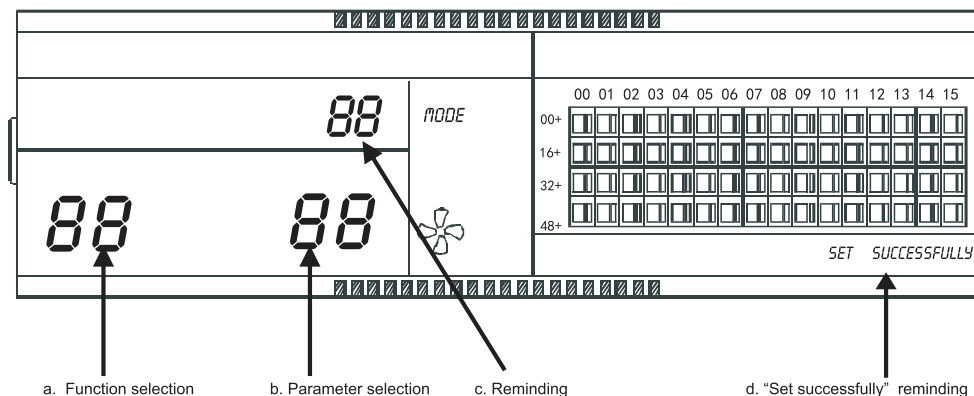

Fig 2.9 Filter net in addition to the dust function involves of show a contents
① Dial the dial code 3 to "ON", select the "Has optional function" referring to table 2.1 to , and then power on the centralized controller, in 1 minute press " " key and hold on then press " " key, enter to optional function setting. Dual eight represented function selection (Fig.2.9 a) will be flashed with 1Hz frequency (default display 00), display the optional function code (see table 2.2). Press " " and " " keys to select function, and then press " " key to enter parameter selection.
②After enter parameter selection, dual eight represented function selection will be lighted on, dual eight represented parameter selection (Fig.2.9 b) will be flashed with 1Hz frequency, display optional parameter code. Through pressing " " and " " keys to select the detailed parameter.
③Press " " to confirm parameter selection(details parameter codes' corresponding time refer to table 2.3).
④After setting successfully, Dual eight represented function selection and dual eight represented parameter selection will be lighted on, the screen will display "Setting successfully" (Fig. 2.9 d). After 3 seconds will auto exit optional function setting. The screen will back to normal display.